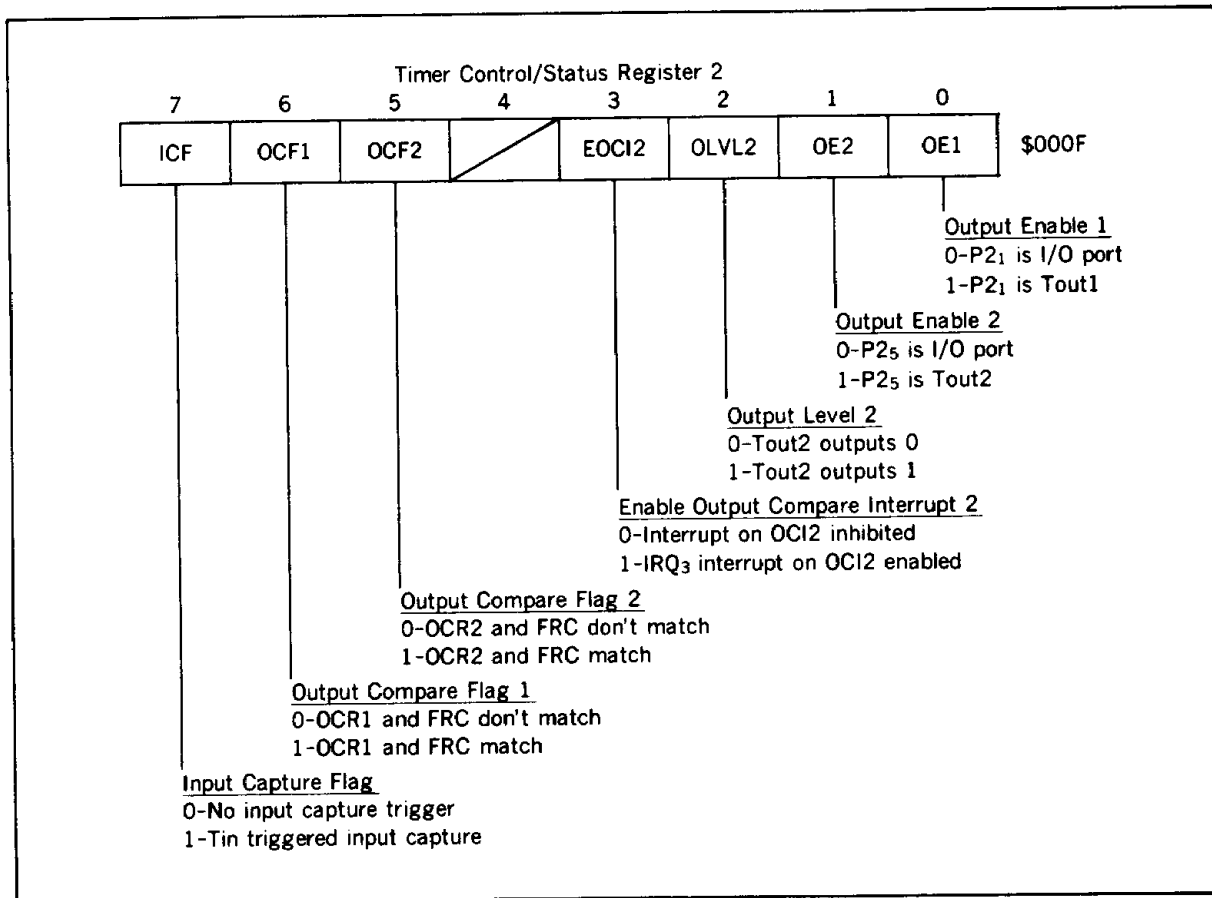

Figure 28. Timer Control/Status Register 2
**Timer Control/Status Register 2**: The timer control/status register 2 (TCSR2: \$000F; figure 28) is a seven bit register. All bits can be read and the lower four can be written. The upper three are read-only status bits. All bits are cleared at reset, except bit 4, which isn't used.